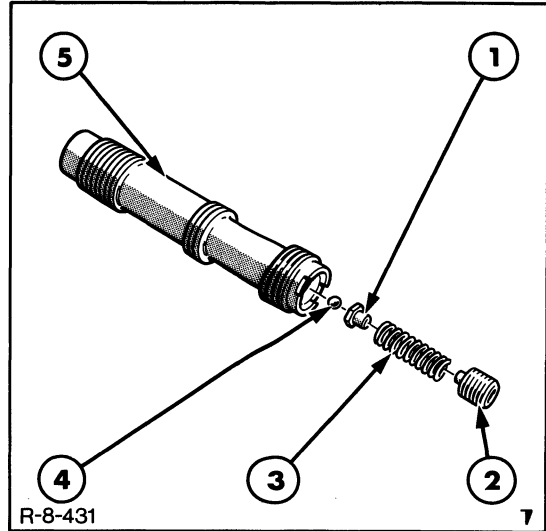

Figure 45
- (b) Place a hexagon key wrench in the hexagon socket of the adjuster plug. Carefully count and record the number of anti-clockwise revolutions made before the adjuster plug is free, then remove the spring, ball retainer and ball, Figure 45.